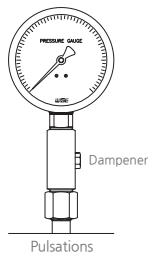

Figure 3
- 5) If there is possible pulsating or impact pressure, installed dampener or gauge protector to prevent excessive pressure. (Figure 3 and 4)